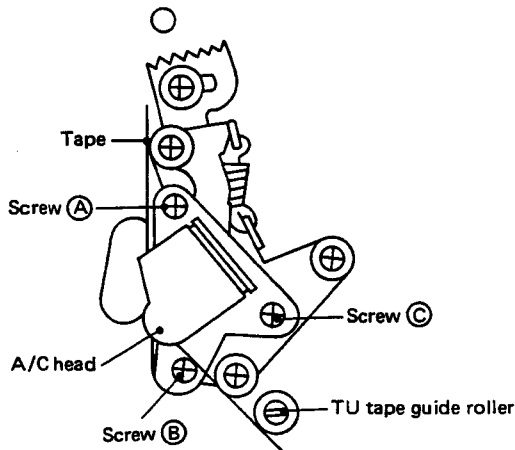

Fig. 2-51 A/C head height
6. When the tape is running normally, adjust screws (A), (B) and (C) (Fig. 2-51) by small and equal amounts in order to obtain the maximum levels.
3. Adjust screws (A) and (B) (Fig. 2-51) for maximum levels and to eliminate phase difference between the channels.